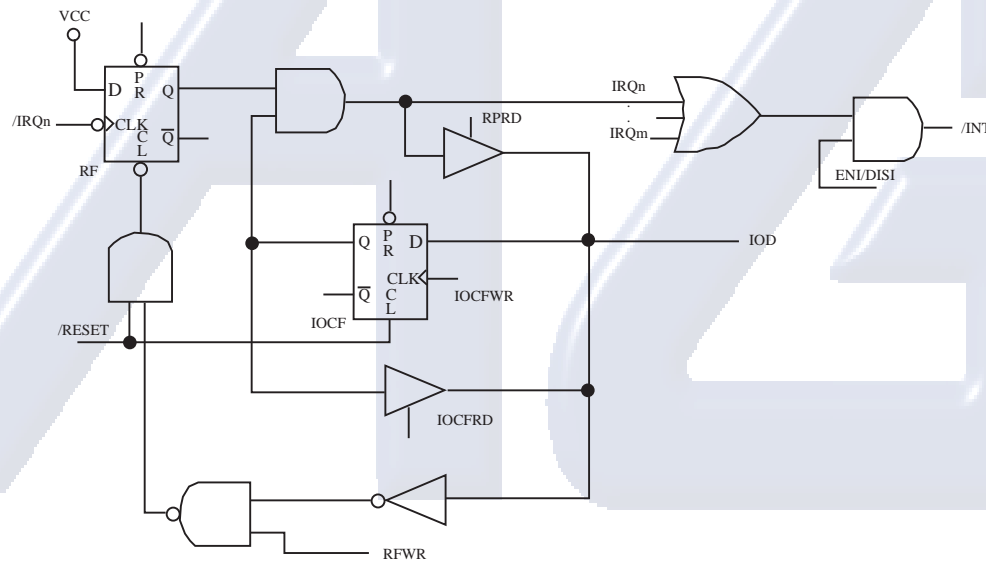

Fig. 10 Interrupt input circuit
The flag (except ICIF bit) in the Interrupt Status Register (RF) is set regardless of the status of its mask bit or the execution of ENI. Note that the outcome of RF will be the logic AND of RF and IOCF. Refer to Fig.10. The RETI instruction ends the interrupt routine and enables the global interrupt (the execution of ENI).